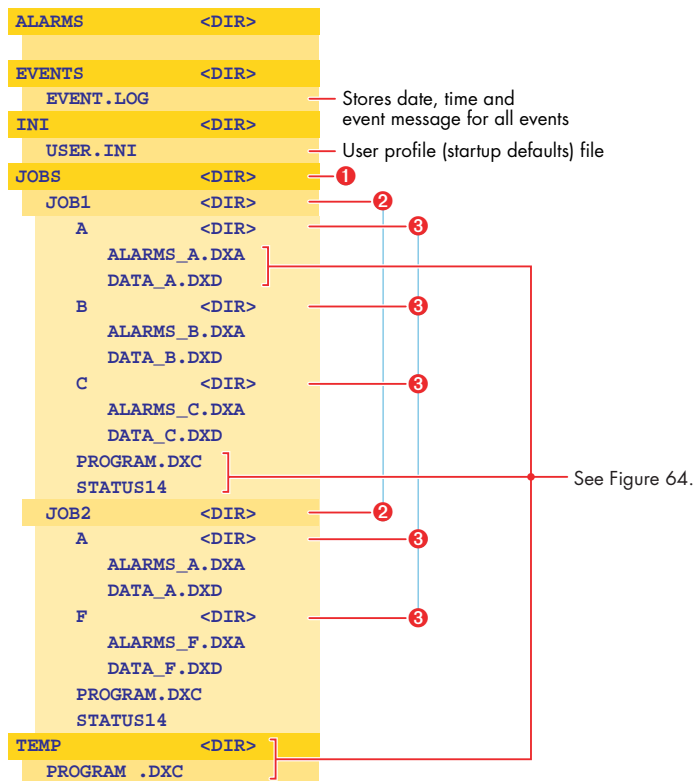

FIGURE 63 Typical structure — DT800 internal data memory (send `DIRTREE"B: "`)
While data logging is in progress, data from each report schedule is progressively stored into its respective data log file (DATA_A.DXD, for example — see Figures 63 and 64) in the DT800's internal memory (or memory card if one is inserted). Whenever a halt command (**Halt** all report schedules) is issued during a data logging session, a **discontinuity record** is written into all currently-open data log files. Similarly, whenever a **Hx** command (halt Report Schedule **x**) is issued during a data logging session, a discontinuity record is written into the currently open file for that report schedule.
Figure 63 shows the directory structure of a typical DT800's internal memory.
- within the root directory there is a JOBS subdirectory — ❶ in Figure 63
- within the JOBS subdirectory there is a subdirectory for each of the jobnames entered into the logger (JOB1, JOB2,...) — ❷ in Figure 63
- within each job subdirectory there is a subdirectory for each of the report schedules in the job (A, B, C,...) — ❸ in Figure 63
Other directories and files are explained in Figures 63 and 64.